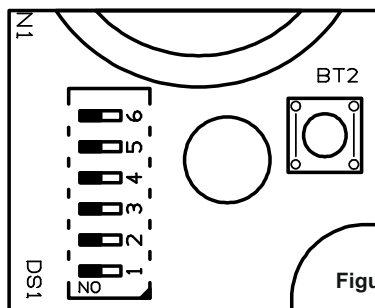

Figure 3
The BS-377/WP/A and BS-378/WP/A detectors (figure 3), have six dip-switches to adjust the operation mode.
-S1 & S2. These switches determine the operation of special maintenance and test functions. To conduct these functions, select the suitable combination with the switches S1 and S2 and press the internal button BT2 (figure 3) for more than 1 second. The function «output test» activates all the LEDs, the buzzer and the alarm relay and deactivates the fault relay while the button is being pressed. For the calibration function, detailed instructions are given later on in this manual.
2.Select using the switches S1 and S2 (figure 3) the special function «Clean air calibration»
3. Press the button BT2 (figure 3) for more than 3 seconds until the 3 system LEDs(green,red and yellow) start to blink with a one second rate.
5. Select via the micro-switch S4 (figure 3) the concentration of the reference calibration gas that will be used (20% or 50% L.E.L.).
6. Select via the micro-switches S1 and S2 (figure 3) the special operation «Calibration with a reference gas».
7. Press and hold the button BT2 (figure 3) for more than 3 seconds until the 3 system LEDs (green, red and yellow) start to blink **(intermittent blink once a second)** and then release the button.